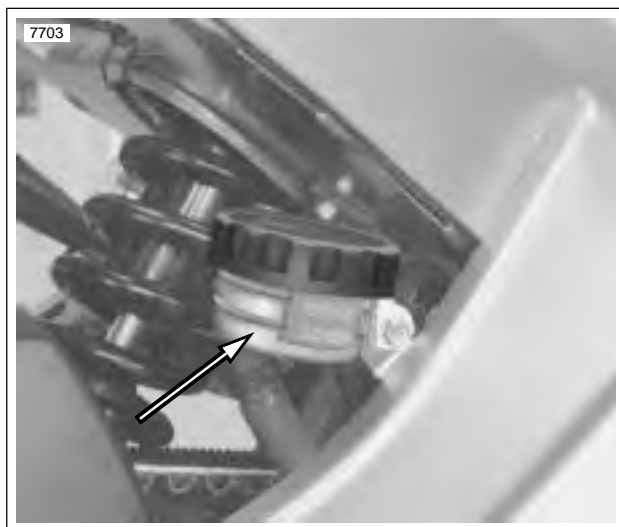

Figure 2-51. Remote Reservoir
1. See Figure 2-51. Connect remote reservoir.